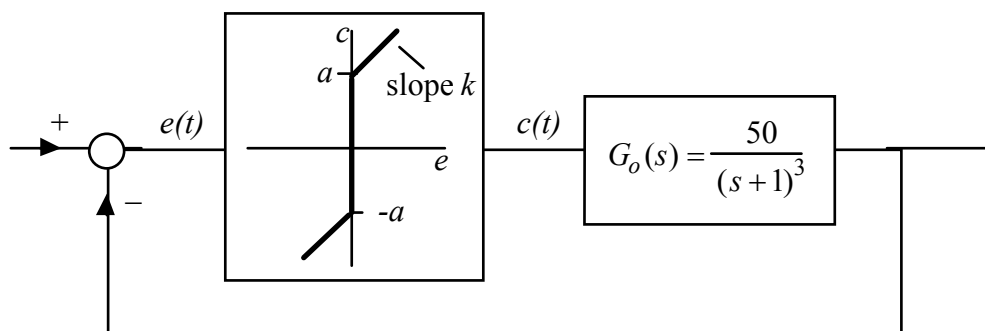

Figure 5.1. System with non-linear controller in the forward path.
- (b) Consider the system shown in Figure 5.1.